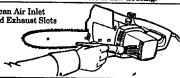

Figure 29
2. Use a small brush or the air discharge of a vacuum cleaner to clean debris and sawdust from the air inlet and exhaust slots on the housing. Figure 29.